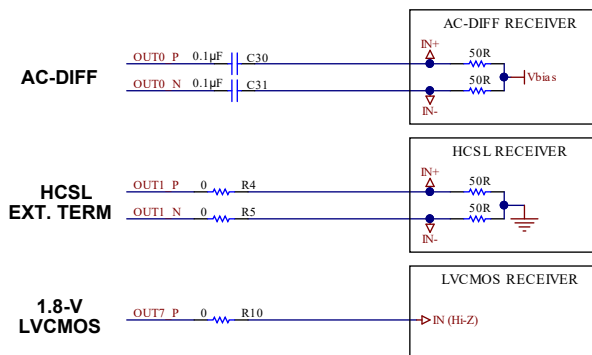

图 10-4. LMK5B12204 Reference Schematic Example
Figure 10-4 shows a reference schematic to help implement the LMK5B12204 and its peripheral circuitry. Power filtering examples are given for the core supply pins and independent output supply pins. Single-ended LVCMOS, AC-coupled differential, and HCSL clock interfacing examples are shown for the clock input and output pins. An external LVCMOS oscillator drives an AC-coupled voltage divider network as an example to interface the 3.3-V LVCMOS output to meet the input voltage swing specified for the XO input. The required external capacitors are placed close to the LMK5B12204 and are shown with the suggested values. External pullup and pulldown resistor options at the logic I/O pins set the default input states. The I²C or SPI pins and other logic I/O pins can be connected to a host device (not shown) to program and control the LMK5B12204 and monitor its status. This example assumes the device will start up from EEPROM mode with an I²C interface (HW_SW_CTRL = 0).
- For a 3.3-V LVCMOS driver, follow the OSC clock interface example in 图 10-4. Power the OSC from a low-noise LDO regulator or optimize its power filtering to avoid supply noise-induced jitter on the XO clock.
- Reference inputs: Follow the LVCMOS or differential clock input interface examples in 图 10-4 or in 节 9.3.3.
- Clock output Interfacing: Follow the single-ended or differential clock output interface examples in 图 10-4 or in 节 9.3.14.
- Power all the VDD pins with proper supply decoupling and bypassing connect as shown in 图 10-4.